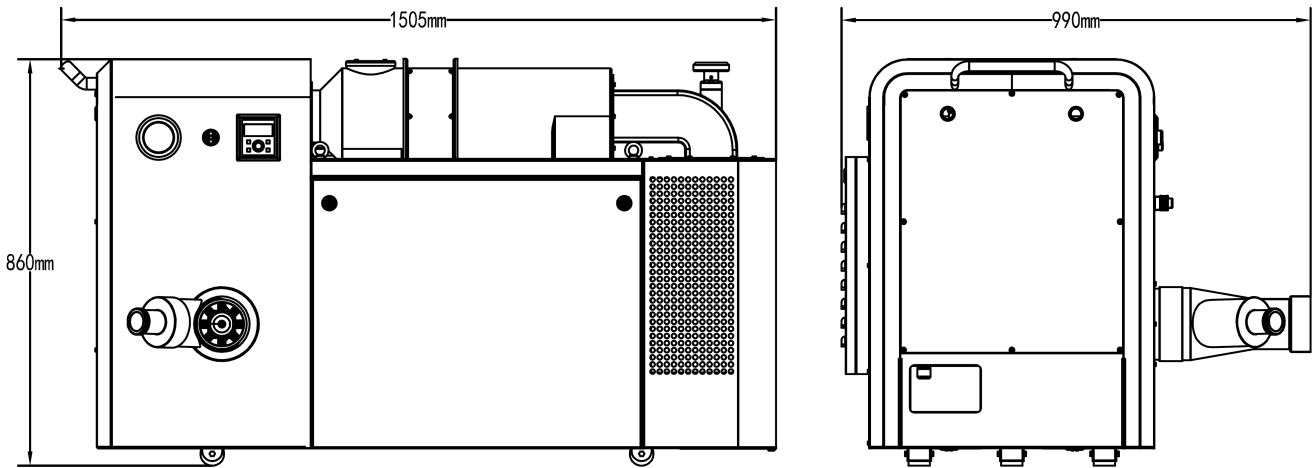

Fig.5
4.3 Positioning the machine (Fig.5)